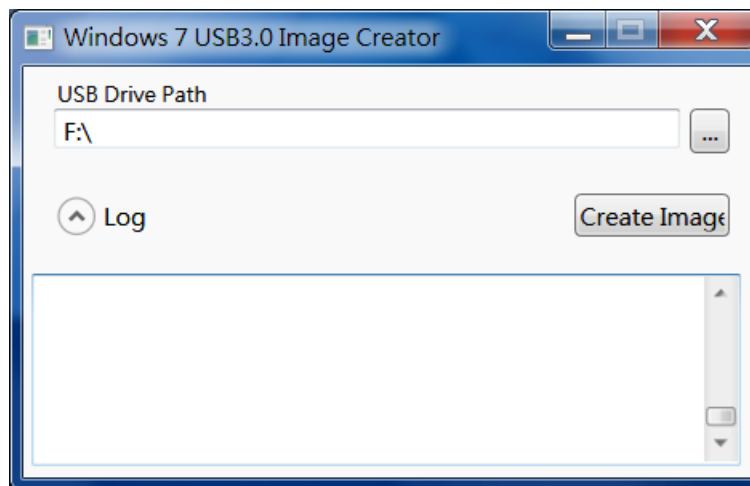

Figure 4-20: Windows 7 USB 3.0 Creator Utility
Step 6: The Windows 7 USB 3.0 Creator Utility screen appears (**Figure 4-20**). Click  to browse to the root of the USB drive containing the Windows 7 image.